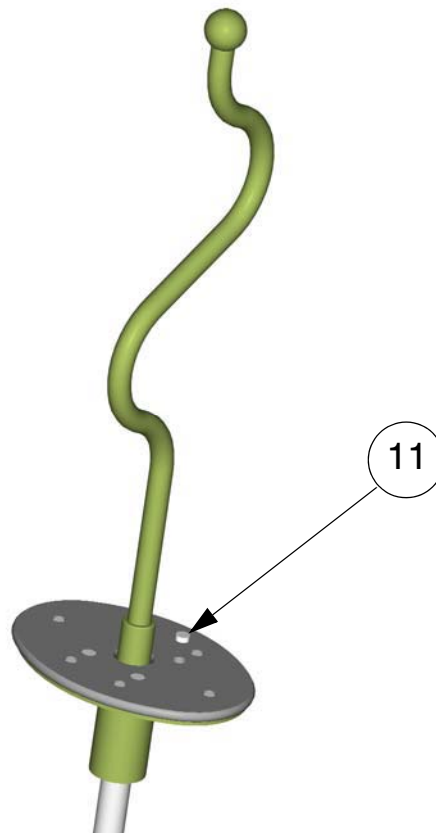

FIG.8
- ix) Fit Pastic Cap (item 11) into holes in Eko Grip Platform (item 3) to cover heads of Hex Head Bolts (item 5). Ensure they fit flush with the surrounding plastic surface with no sharp edges. (FIG.8).